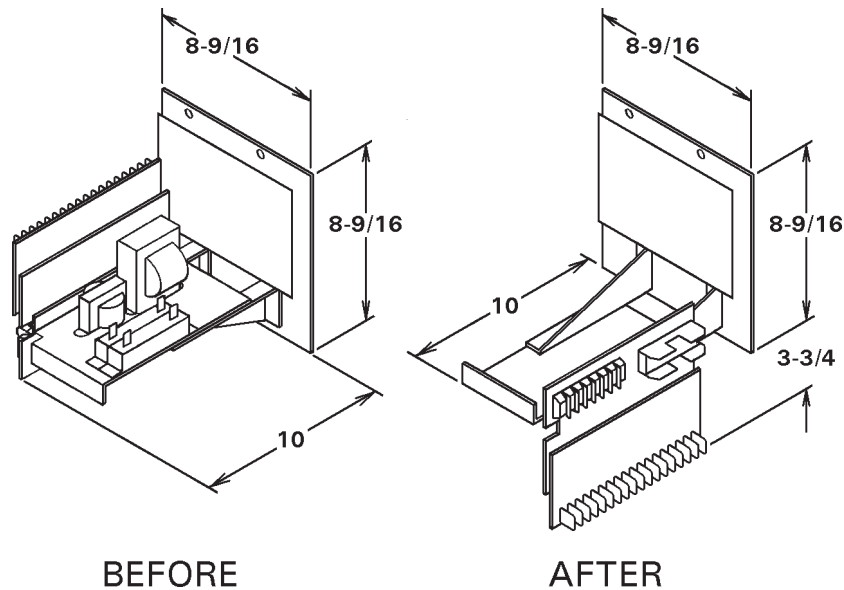

Figure 1.
The Integrated Modular Unit (IMU) series of Weld Controls are designed for use in retrofit situations or in new/custom designs. Customers are free to place one or more of these units in existing enclosures or new designs as requirements demand. **To make the IMU even more flexible, the rear chassis can be rotated 180°.** If the IMU as supplied cannot be oriented so that the Terminal Strip/Firing PCB, Voltage Programming Terminal Strip and fuse holder can be accessed directly, the chassis can be inverted (turned upside down) to provide access as shown in Figure 1. Before installing the IMU in an enclosure, determine whether or not the chassis needs to be flipped. If rotation of the chassis is required, follow the instructions below.
3. Rotate the IMU chassis 180° on its long axis and remount the brackets to the studs on the Dial Plate (see Figure 1).